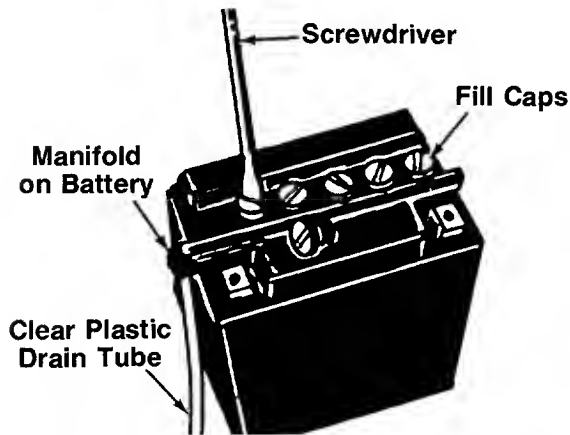

FIGURE 13.
3. Place one end of clear plastic drain tube on manifold of battery. See figure 13.
4. Remove the six fill caps from the top of the battery with a screwdriver. Care should be taken not to damage the fill caps. See figure 13.